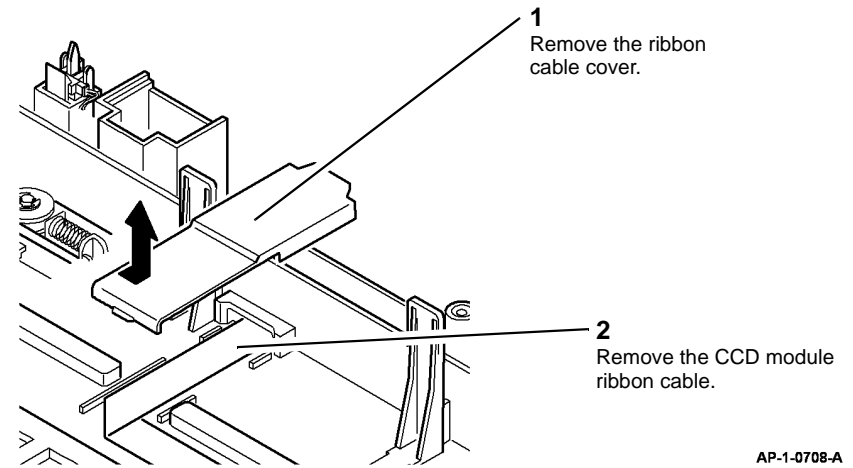

Figure 7 Ribbon cable removal (4150/4250/4260)
- For the 4150/4250/4260 (Figure 7)